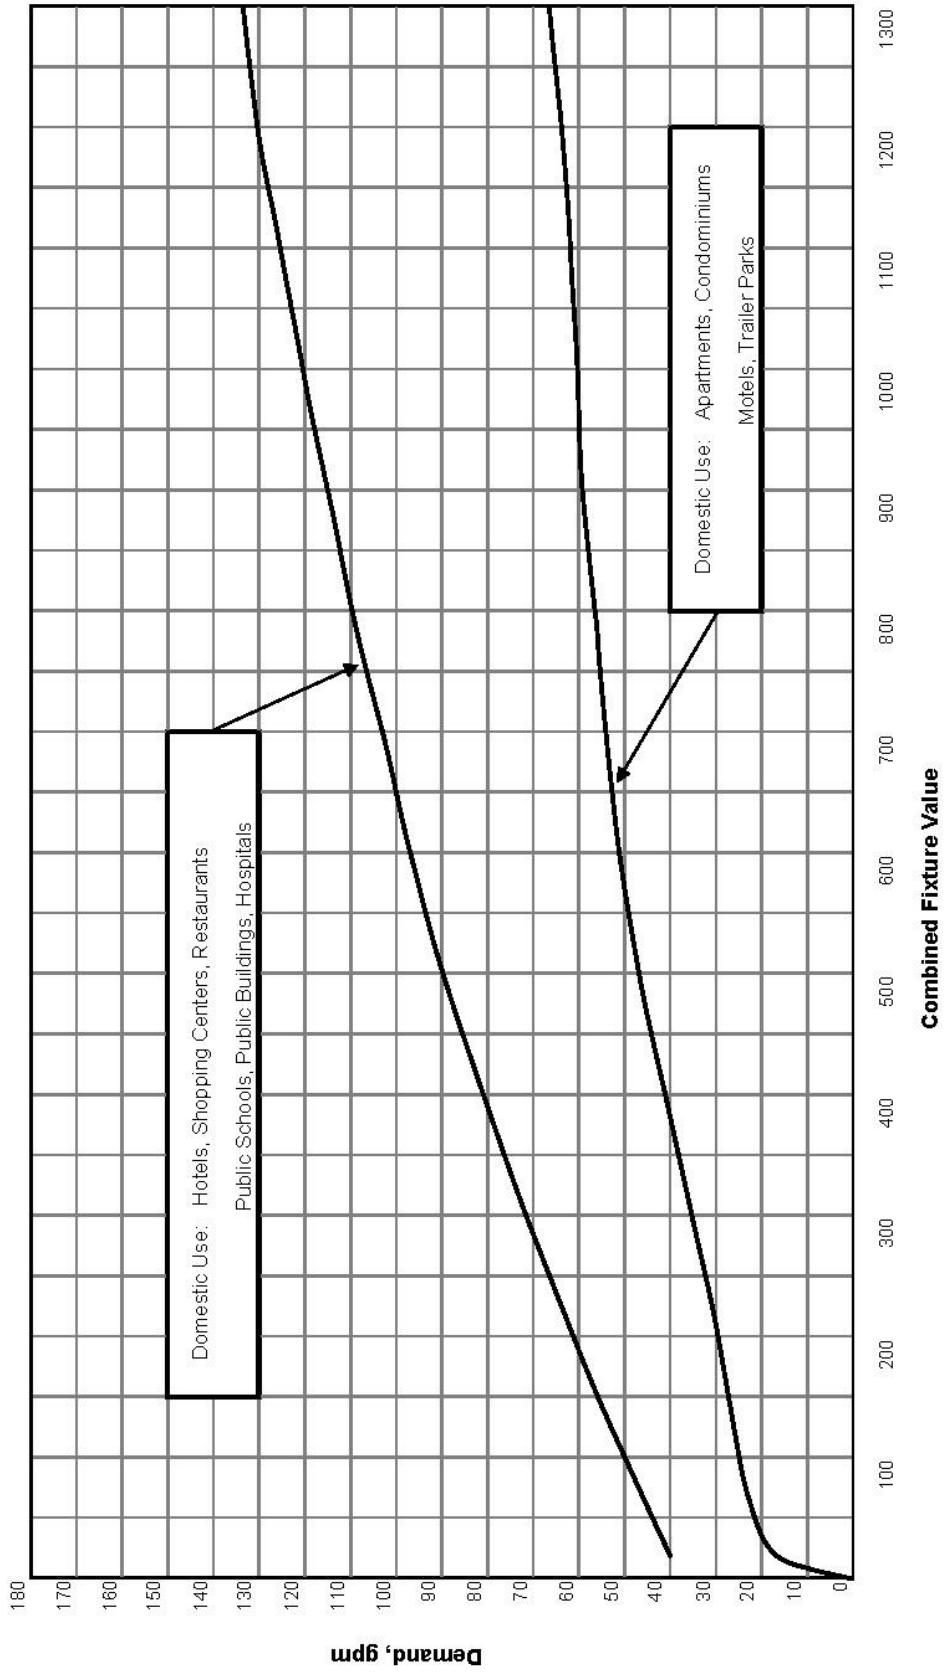

Figure 4-2 Water flow demand per fixture value - low range
3. *Water Demand* is auto calculated based on Figure 4-2 or 4-3